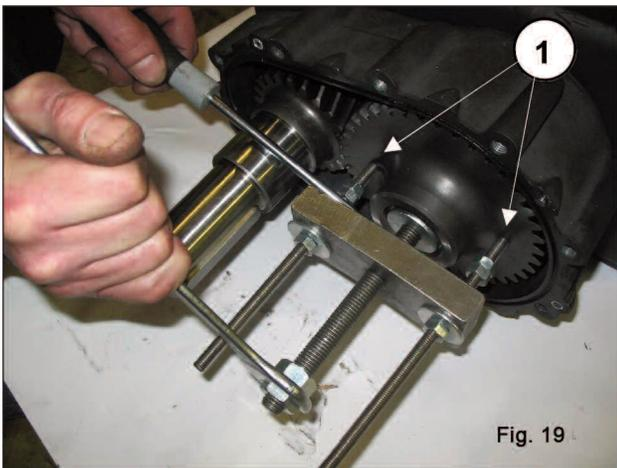

Fig. 19
- Take out the screw fixing the crown wheel along with the washer and extract the crown wheel. If necessary, it is possible to use an extractor hammer to be applied on the two M8 holes (1, fig. 19) or a common extractor tool (fig. 19).